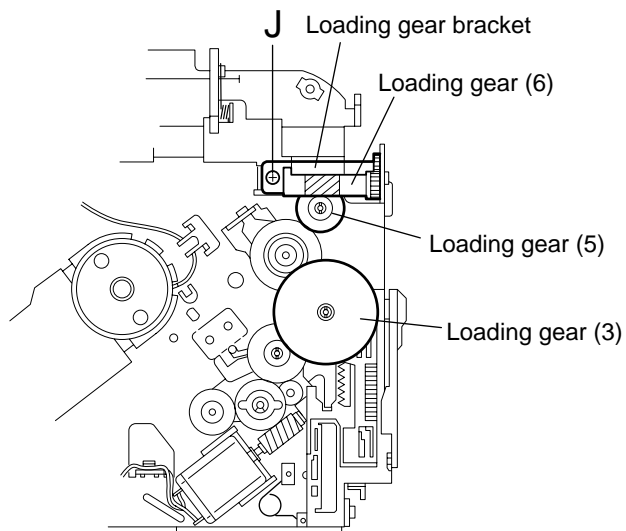

Fig.31
■ Removing the loading gear (5), (6) and (7) (See Fig.31 and 32)
1. Remove the screw **J** attaching the loading gear bracket. The loading gear (6) and (7) come off the loading gear bracket.
2. Pull out the loading gear (5).